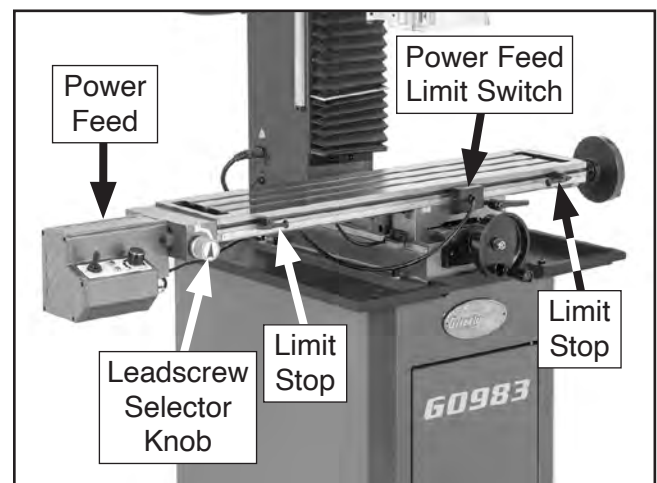

Figure 34. X-axis power feed components.
On the Model G0983, the X-axis table travel can also be controlled with the power feed (see **Figure 34**).
Use the leadscrew selector knob (see **Figure 34**) to engage or release the power feed drive gear. Adjustable limit stops and a limit switch (see **Figure 34**) control the power feed travel.
1. Adjust location of table travel limit stops to suit workpiece (see **Figure 34** on **Page 32**). Lock stops in position.